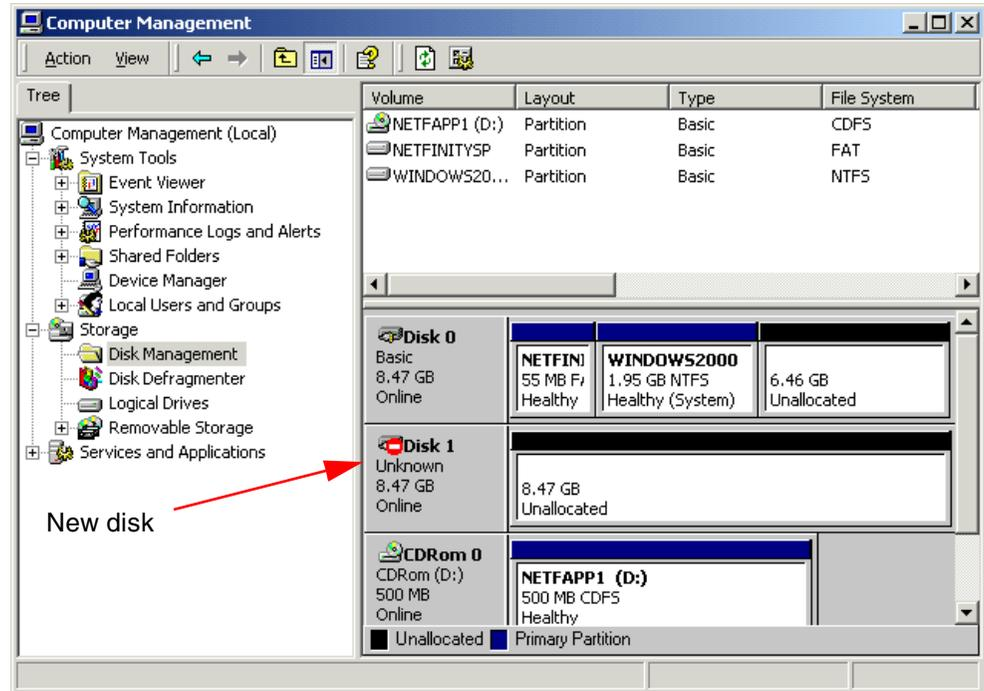

Figure 104. New disk found
9. Windows 2000 finds the new disk. If the disk does not have a disk signature assigned by another Windows 2000 system, the disk cannot be used yet. (Figure 104). Right-click the disk and select Write Signature from the context menu. After writing a signature to the disk, the disk can be configured.